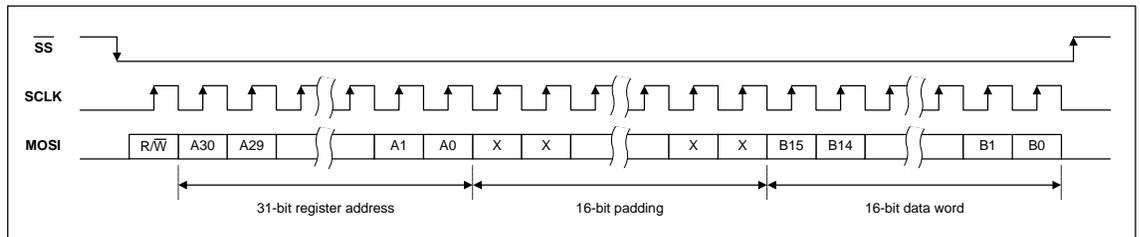
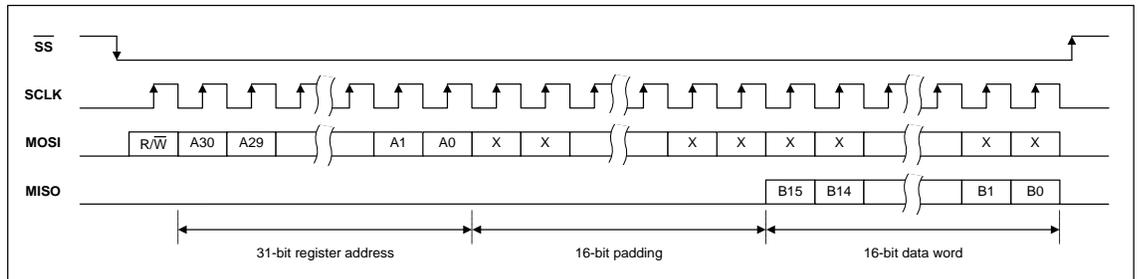

Figure 77 Control Interface 4-wire (SPI) Register Write (16-bit Data Words)
Figure 78 Control Interface 4-wire (SPI) Register Read (16-bit Data Words)
- Note that, in all cases, the complete SPI message protocol also includes a Read/Write bit, and a 16-bit 'padding' phase (see Figure 77 and Figure 78 below).
The 4-wire (SPI) protocol is illustrated in Figure 77 and Figure 78. Note that 16-bit data words are shown, but the equivalent protocol also applies to 32-bit data words.